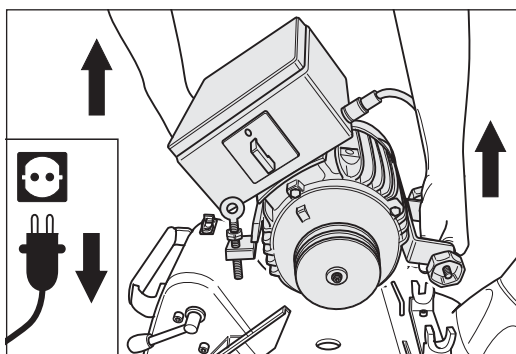

Fig. 53 Remove the motor from the machine housing.
- 9 Remove the motor from the machine housing (fig. 53) and secure it during transport against slipping and damage!